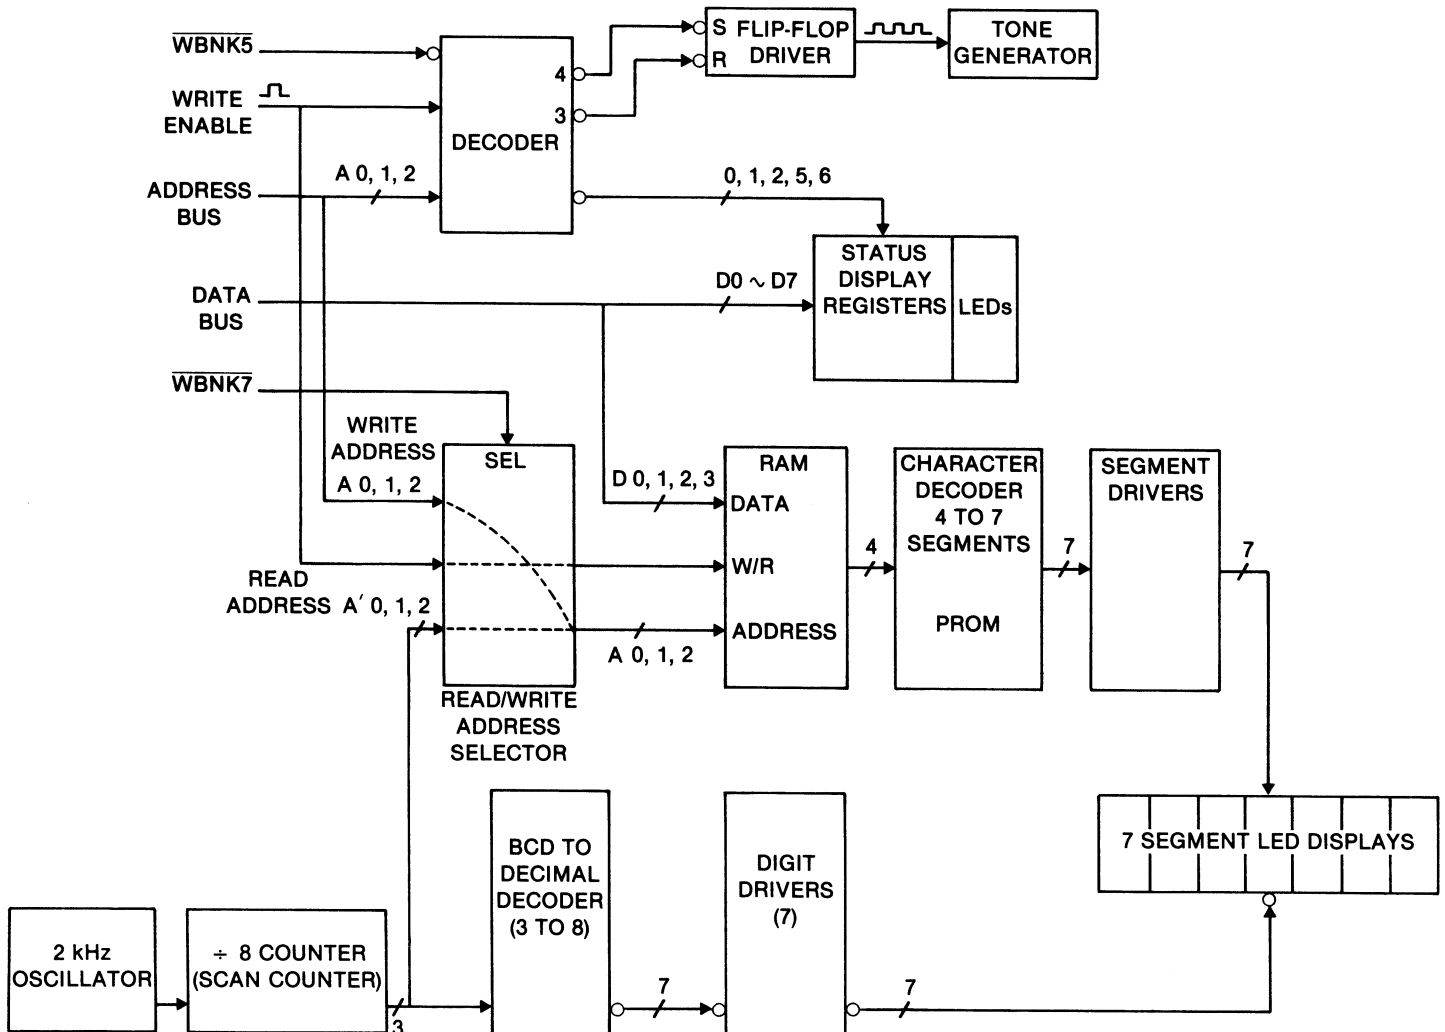

Figure 5-24. Numerical Display Diagram
The numerical display consists of seven 7-segment LED displays. The numerical information to be displayed is stored in a Random Access Memory (RAM) located on the display board (see figure 5-24). When WBNK 7 (write bank 7) is selected and the lower four bits of data and the address are present, the information is entered into the RAM by applying the write enable pulse (WE). Once the data are stored at the respective addresses of the RAM, the contents can be sequentially output to the PROM input. A 2 kHz oscillator clocks a divide-by-eight counter which furnishes sequential 3 bit read addresses to the address selector. When write enable is false, the RAM operates in read mode using the sequential ad-